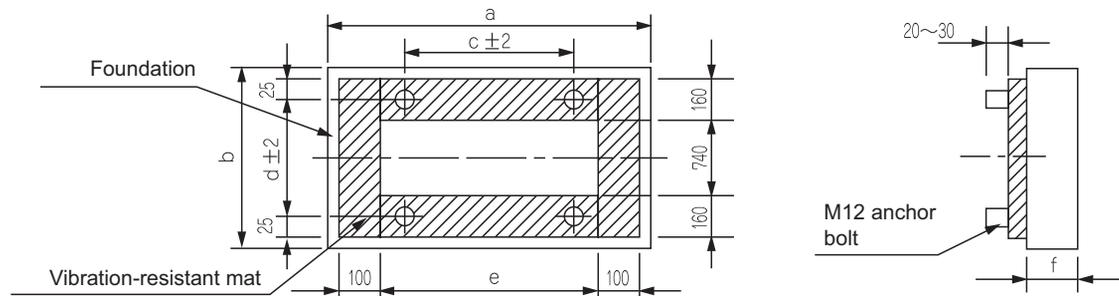

Fig. 8
- When installing the outdoor unit, be sure to use the specified size of anchor bolts (shown in Fig. 8) and anchor the unit security. Failure to do so may result in the outdoor unit tipping over, causing gas leakage and personal injury.